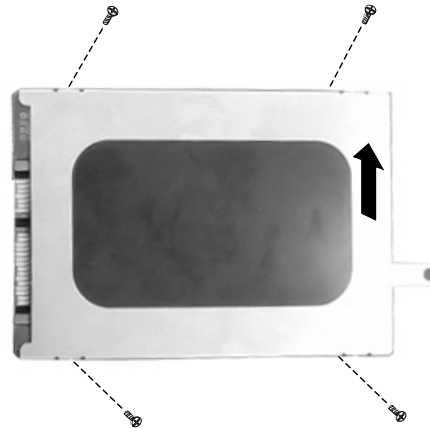

Figure 2-10 Remove hard disk drive
4. Remove the four screws to separate the hard disk drive from the bracket, remove the hard disk drive. (Figure 2-10)